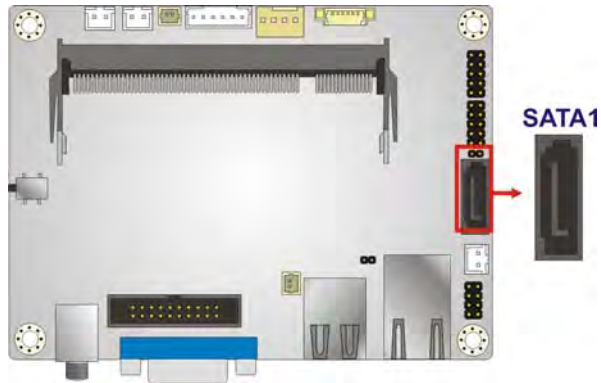

Figure 4-17: SATA 3Gb/s Drive Connector Location
- CN Location: See **Figure 4-17**